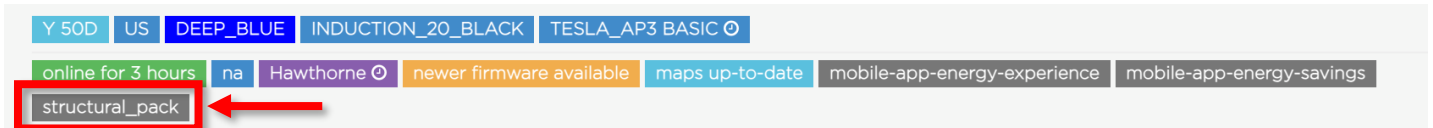

Figure 1
NOTE: This document is only applicable for Model Y vehicles equipped with the structural High Voltage (HV) battery. For non-structural Model Y vehicles, refer to TN-18-16-001. To determine if a vehicle has a structural HV battery, use Garage and see if the “structural_pack” tag is present underneath the VIN (Figure 1).